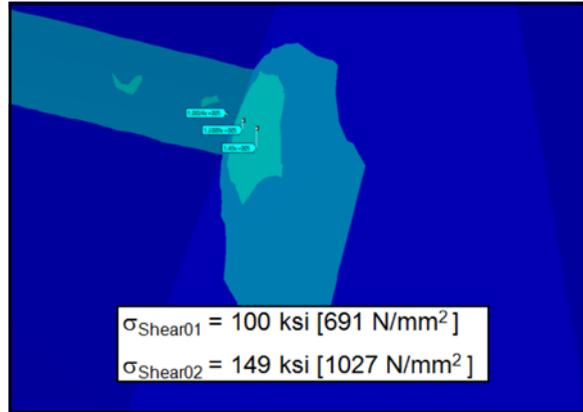

Figure 9 Storm holding shear stress.
- Figures 9, 13 — shear stress